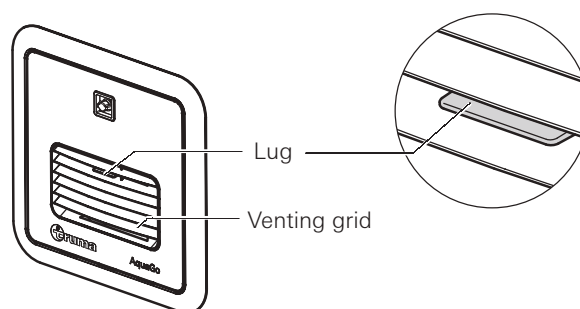

Fig. 7
10. Check the position of the plug. You must be able to see the lug through the venting grid – as shown in Figure 7.